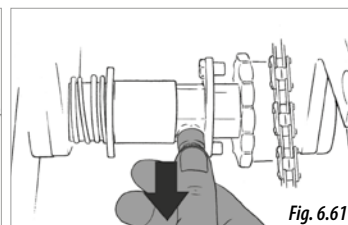

Fig. 6.61
- 1- Pull the knob out slightly (Fig. 6.61) and the clutch will return to its transmission position.